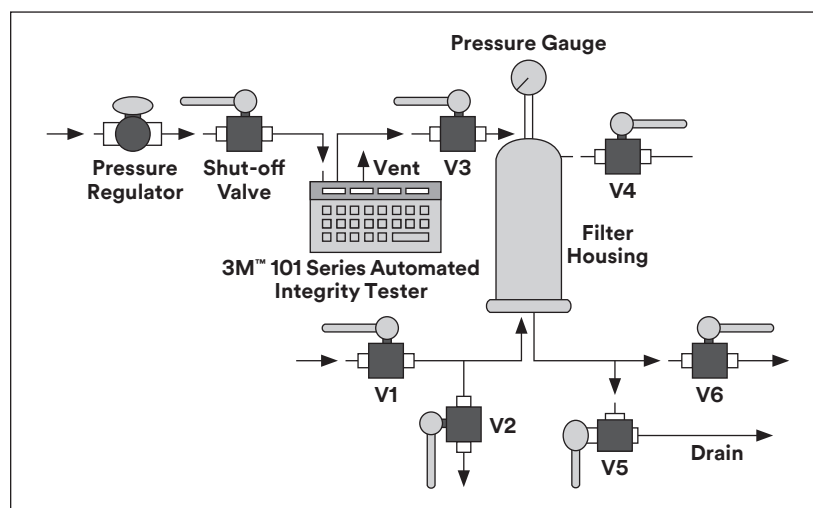

Figure 2. PHT (Automated Method).
### 3. Procedure (Automated Test — Figure 2)
- A. Configure the system as shown in Figure 2.